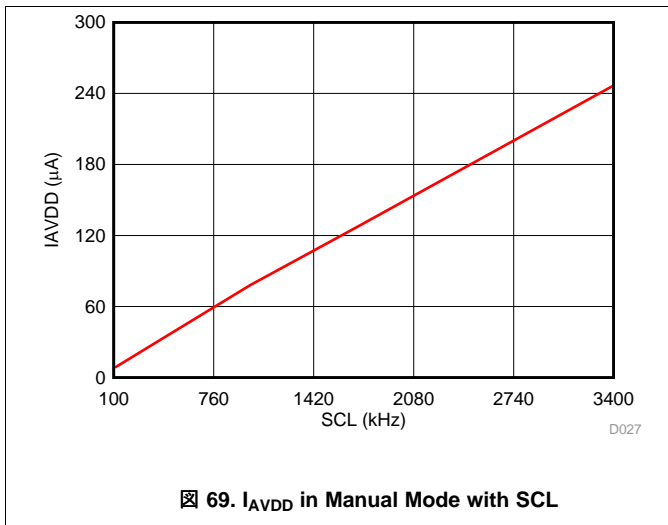

Figure 69. I_{AVDD} in Manual Mode with SCL
- In Manual Mode, run the device at the optimum sampling speed. Power consumption scales with Sampling Speed. In Manual Mode, the sampling speed is dependent on time period (or frequency) of SCL (Equation 7). Figure 69 and Figure 70 illustrate scaling of I_{AVDD} and I_{DVDD} with SCL in Manual Mode.